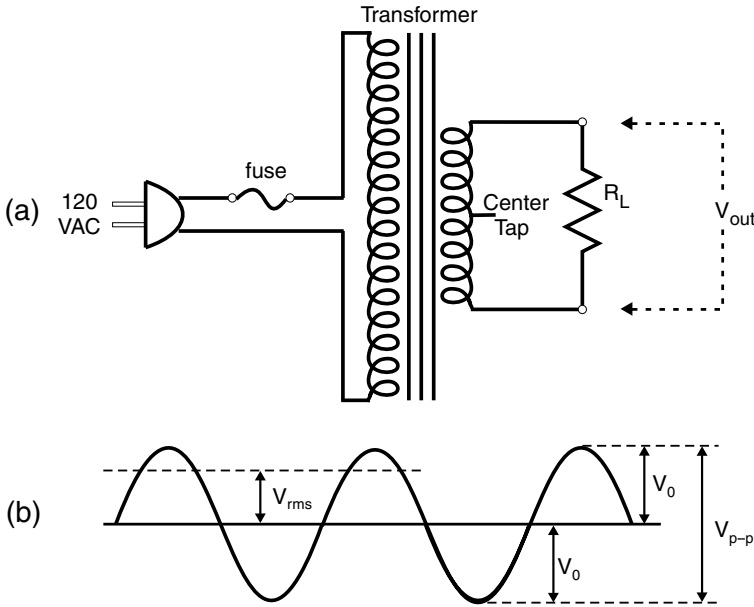

Fig. 3.6. (a) Power transformer supplies $V_{out} \approx 25$ V r.m.s.; (b) waveform produced by the circuit in (a).
- ▷ Set up the circuit shown in Fig. 3.6(a) using a 10 k resistor as the load, R_L . Observe the sinusoidal voltage waveform across R_L . Measure the amplitude V_0 and the r.m.s. voltage. Check the relation